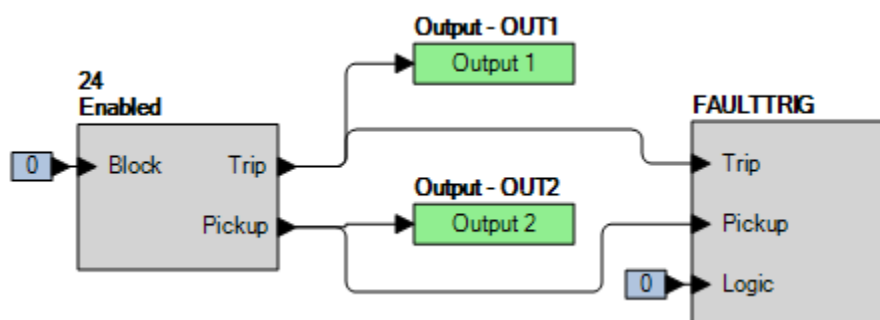

Figure 55-1. BESTlogic*Plus* Settings
Step 2: Use BESTCOMS*Plus* to configure the BESTlogic*Plus* programmable logic shown in Figure 55-1.